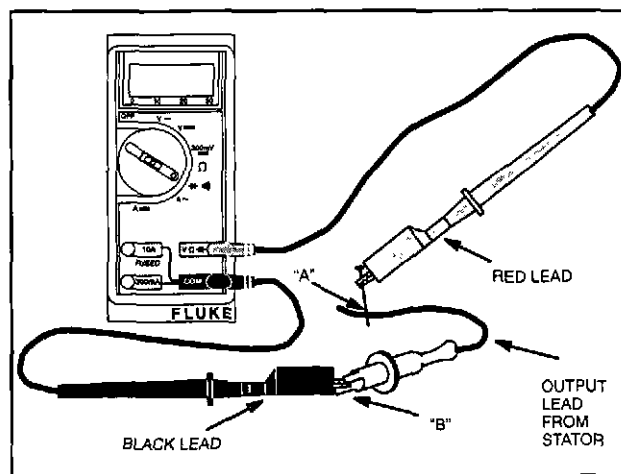

Fig. 13 - Testing Diode
4. Attach RED test lead clip to point "A" and BLACK test lead clip to point "B," Fig. 13. (It may be necessary to pierce wire with a pin as shown.)